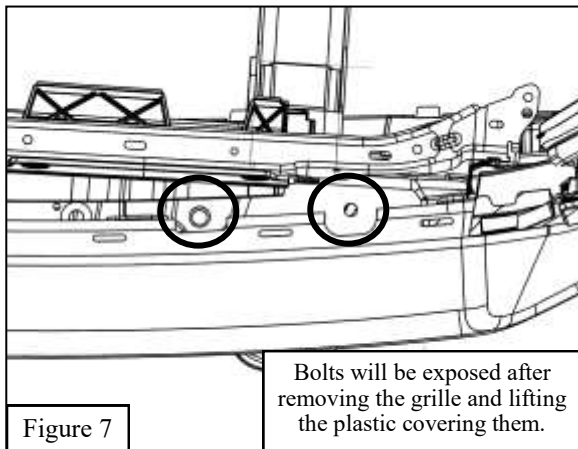

Figure 7
9. Remove 4 upper bumper bolts attaching the bumper to the frame and remove 2 bottom bolts attaching bumper arm to the frame. See **Figure 7 & 8** for reference.